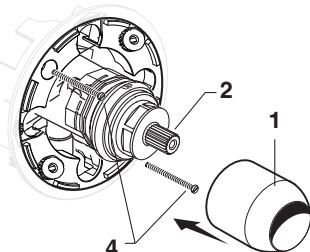

Figure 1a.
- **Figure 1a.** Push CAP (1) over VALVE CARTRIDGE (2) until seated against stop.